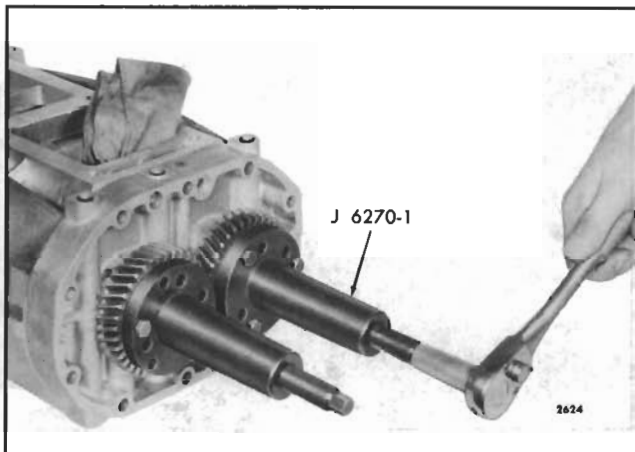

Fig. 4 · Removing Blower Gears
2. Remove the timing gears with pullers J 6270-1 (Fig. 4). Both gears must be pulled at the same time as follows:
b. Turn the two puller screws uniformly clockwise and withdraw the gears from the rotor shafts as shown in Fig. 4.